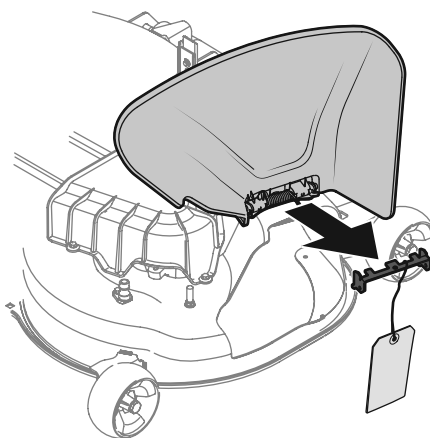

Figure 10
2. Holding the chute deflector fully upward, remove the stop bracket. Lower the chute deflector and discard the stop bracket. See Figure 10.